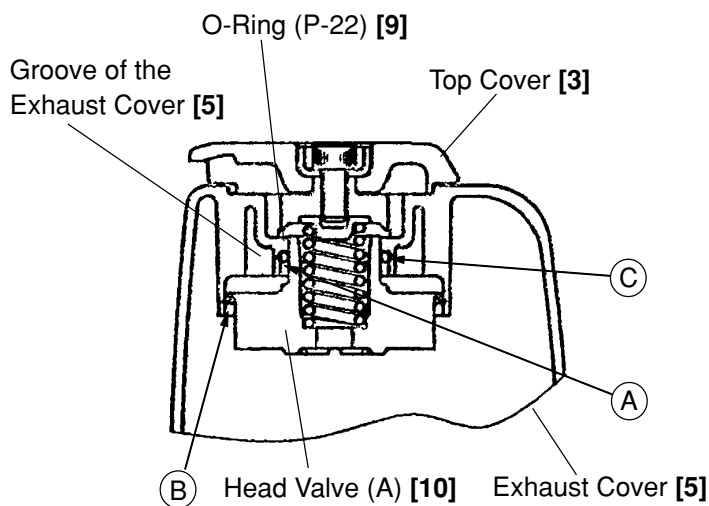

Fig. 21
- Apply grease to the sliding surface (A) of the Exhaust Cover [5] and Head Valve (A) [10] and charge about 0.5 g (0.018 oz) of grease in the groove of the Exhaust Cover [5] (Fig. 21).
- Apply grease to the lip portions (B) and (C) of Head Valve (A) [10] (Fig. 21).
- Apply grease to the O-Ring (P-22) [9]. Mount the O-Ring (P-22) [9] to Head Valve (A) [10], then mount it to the Exhaust Cover [5].